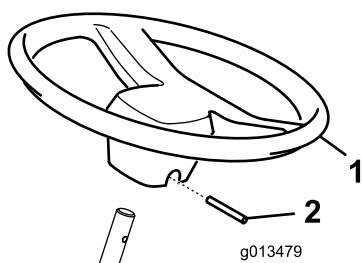

Figure 2
2. Slide the steering wheel onto the steering shaft (Figure 2).
3. Secure the steering wheel in place with the roll pin (Figure 2).